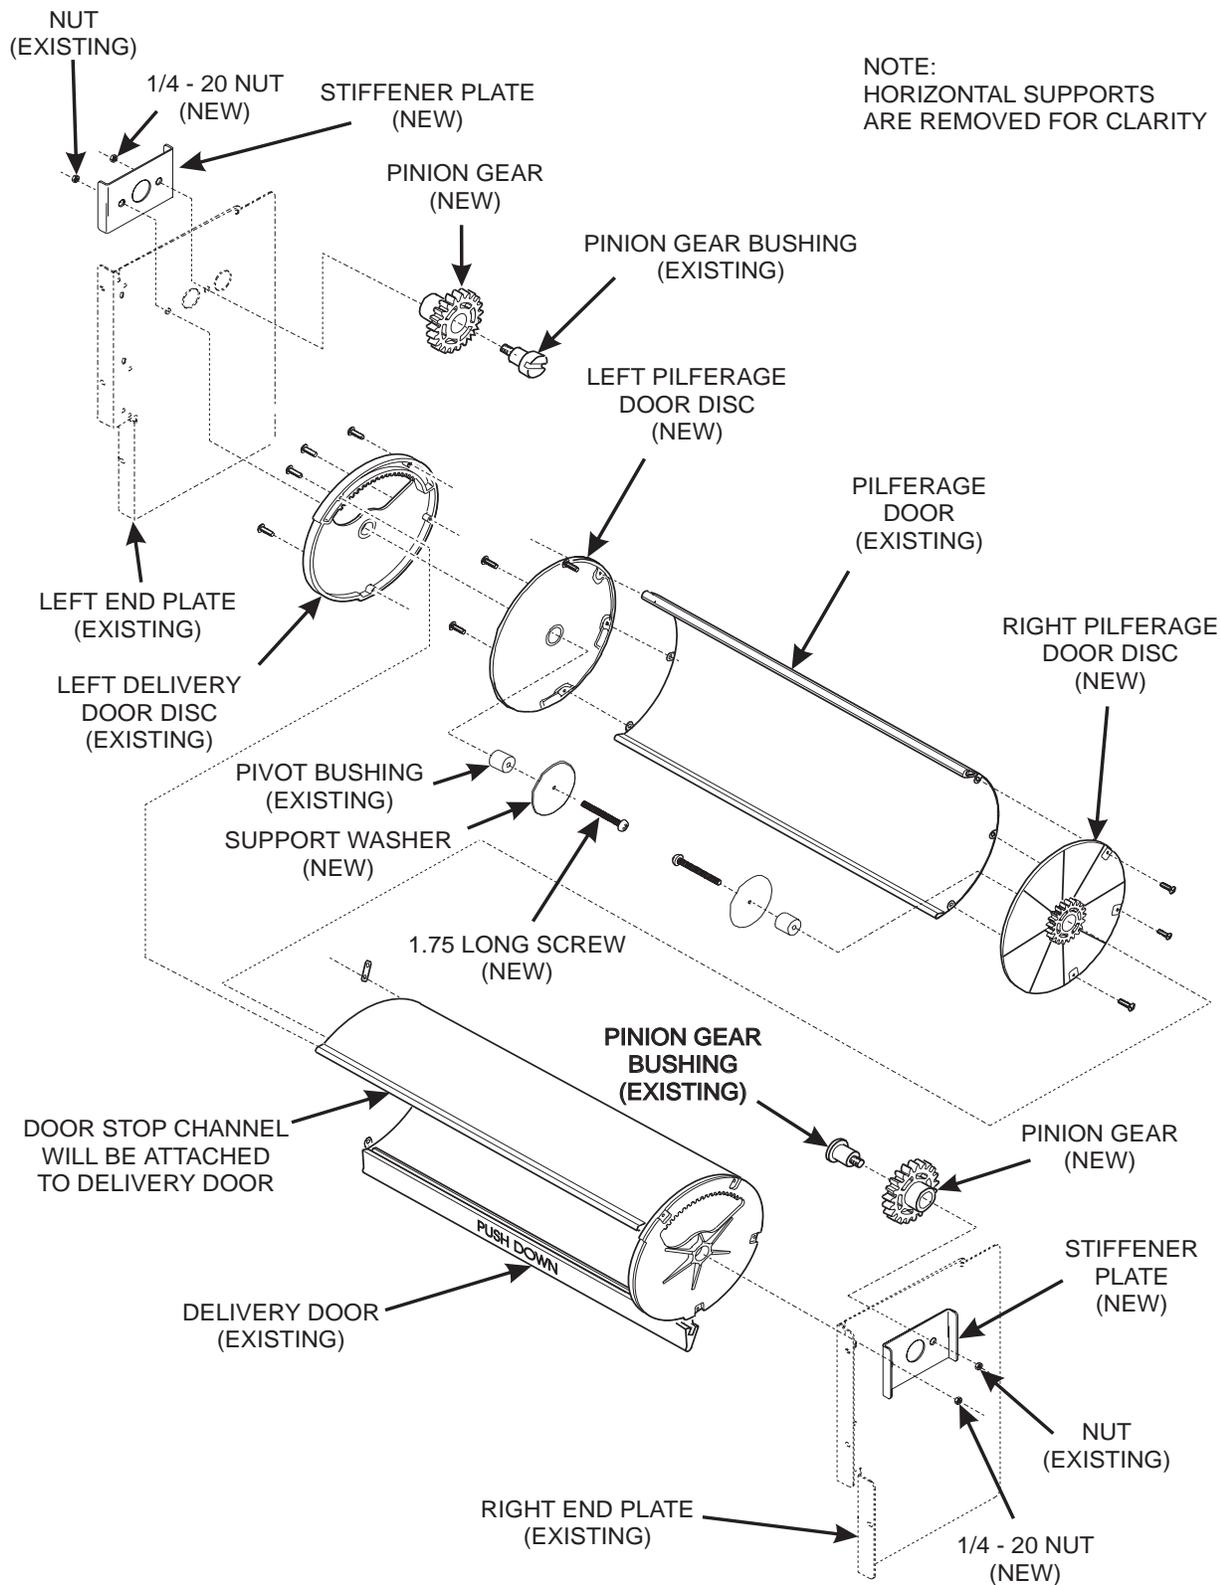

Figure 5
18. Replace the existing pilferage door disks with the new disks. Refer to figure 5 for proper orientation.
22. Insert one of the pinion gear bushings into one of the new pinion gears. See figure 5 for proper orientation.